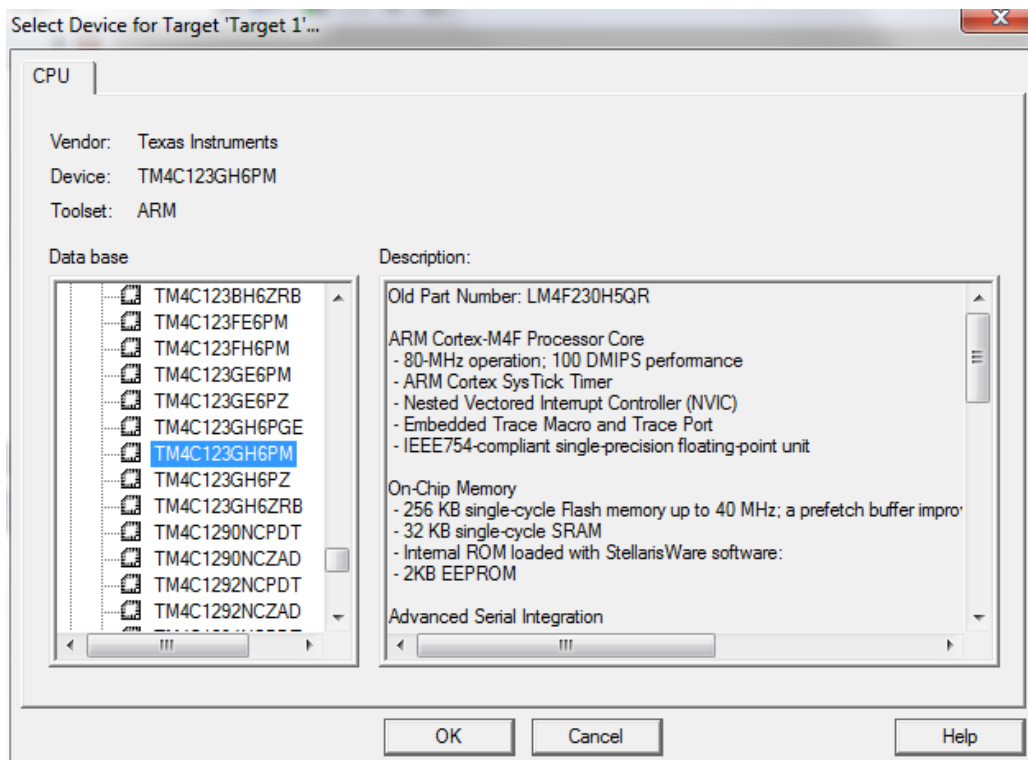

Figure 15
3. Once the project file (.uvproj) is saved, a dialog window appears asking you to select the device that you are using (see Figure 15). Select the appropriate device under the “Texas Instruments” list. The device we need to select is TM4C123GH6PM.